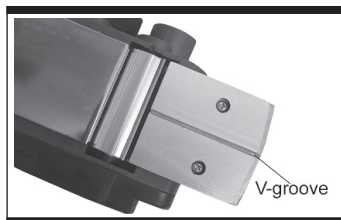
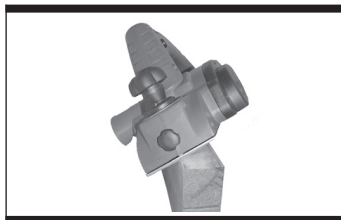

Fig 5
Fig 6
4. CHAMFERING (see fig5 and fig6)